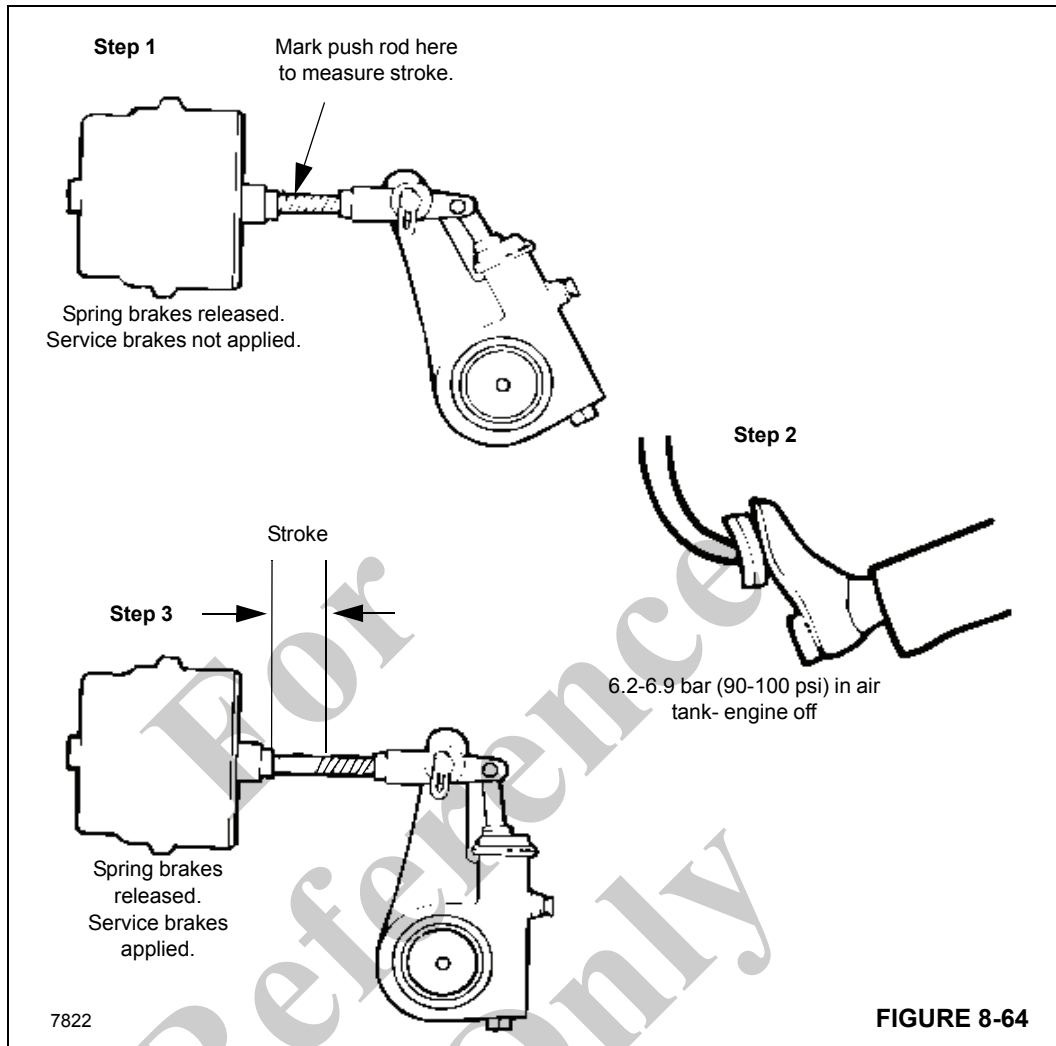

FIGURE 8-64
3. With the brakes released, mark the push rod where it exits the chamber. Measure and record the distance. Have another person apply and hold the brakes on full application Figure 8-64. Hold a ruler parallel to the push rod and measure as carefully as possible. A measurement error can affect CVSA (Commercial Vehicle Safety Alliance) re-adjustment limits. CVSA states that "any brake 6.4 mm (1/4 in) or more past the readjustment limit, or any two brakes less than 6.4 mm (1/4 in) beyond the re-adjustment limit, will be cause for rejection."
4. Measure the push rod travel or adjusted chamber stroke from where the push rod exits the brake chamber to the mark on the push rod. Measure and record the distance Figure 8-64 step 3.